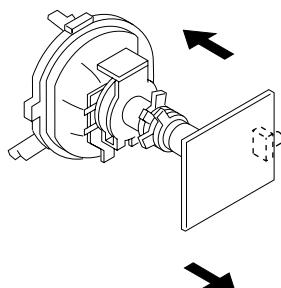

Fig. 3-1
(See Figures 3-1 through 3-3.)
- Move the deflection yoke forward and adjust so that the entire screen is green. (See Figure 3-1.)